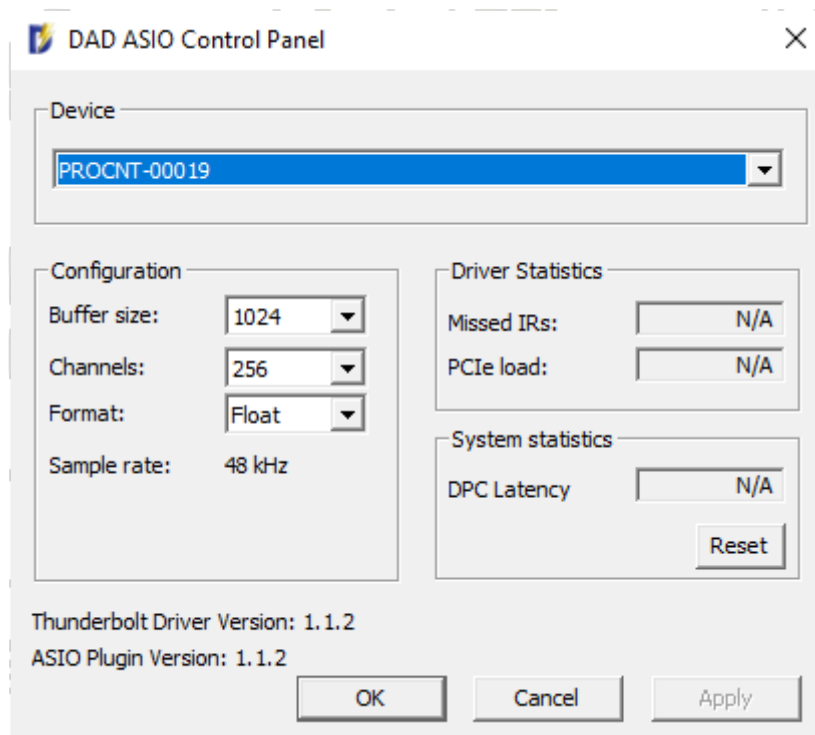

Figure 5: ASIO driver configuration window
5. Configuration can be done on the parameters shown in Figure 5.